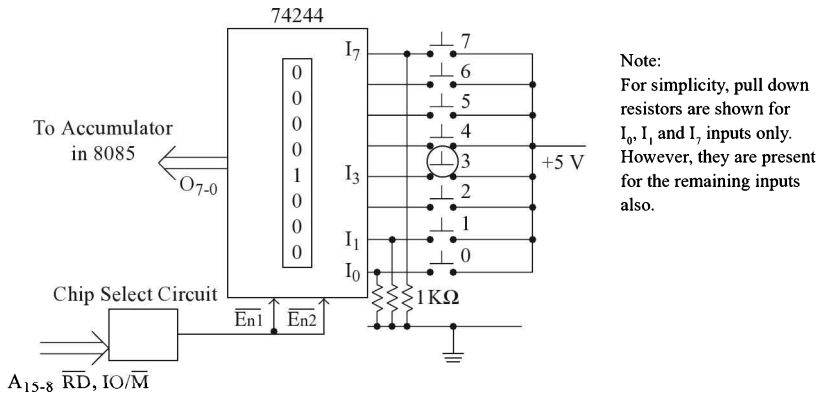

Fig. 22.11
A circuit that uses 74244 to interface a simple keyboard with eight keys is shown in Fig. 22.11.
In Fig. 22.11, one end of all the keys is connected to logic 1. The other end of the key that is connected to the 74244 input is also connected to ground through a resistor. This resistor is normally called a pull-down resistor. A pull-down resistor helps in bringing the logic level at a key that is not pressed to logic 0. Pull-down resistor value used is typically 1 K Ω . If only key 3 is pressed, then I3 input of 74244 will be logic 1. In this case the pull-down resistor will have no effect in the circuit operation. All other inputs of 74244 will be logic 0. The pull-down resistors help in bringing these inputs of 74244 to logic 0. Thus, when only key 3 is pressed, the inputs to the 74244 would be 00001000 = 08H. This value gets loaded into the accumulator when IN 77H instruction is executed.